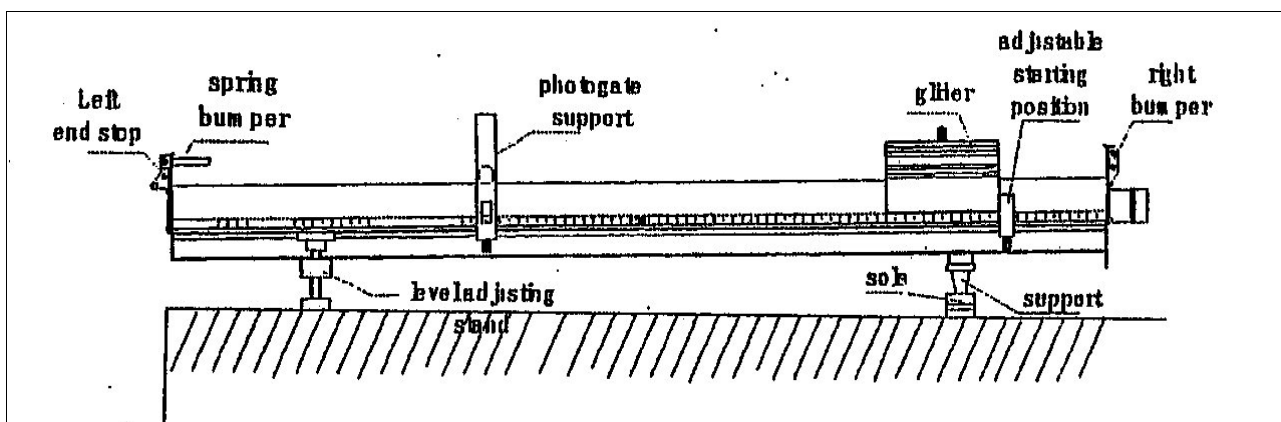

Figure 4.1: Velocity
- Step 1: Set up the apparatus as shown in Figure 4.1. Level the track as described in paragraph 3.3. Incline the track by placing the short rise block under the single support. Install the starting position bracket at a convenient position on the high end of the track, and a spring bumper on the low end. Install one photogate at about the 70cm position.